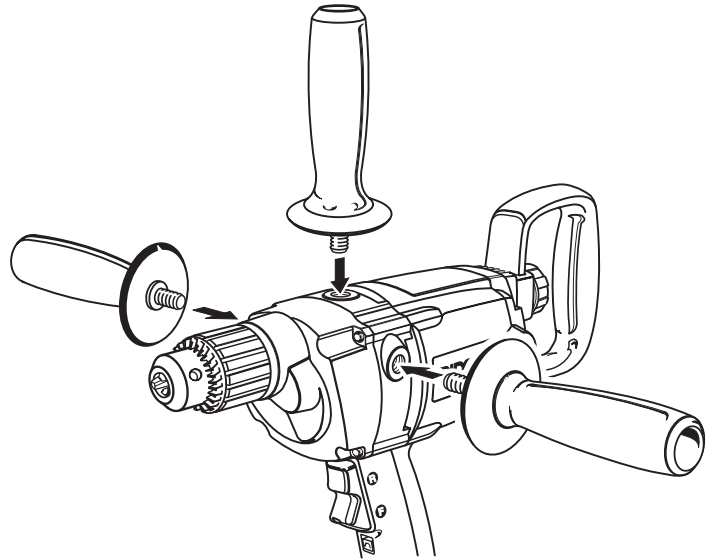

Fig. 2
See Figure 2.
- Insert the threaded end of the handle into one of the three positions on the drill as shown in figure 2.